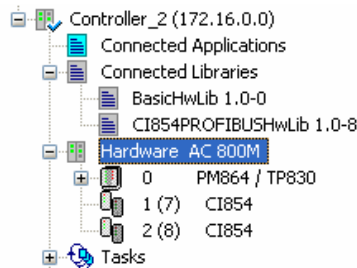

Figure 4.2: Redundant CI854 in hardware-Tree
3. The icon changes to the redundancy icon and the text is updated with backup position within parenthesis (see Figure 4.2).